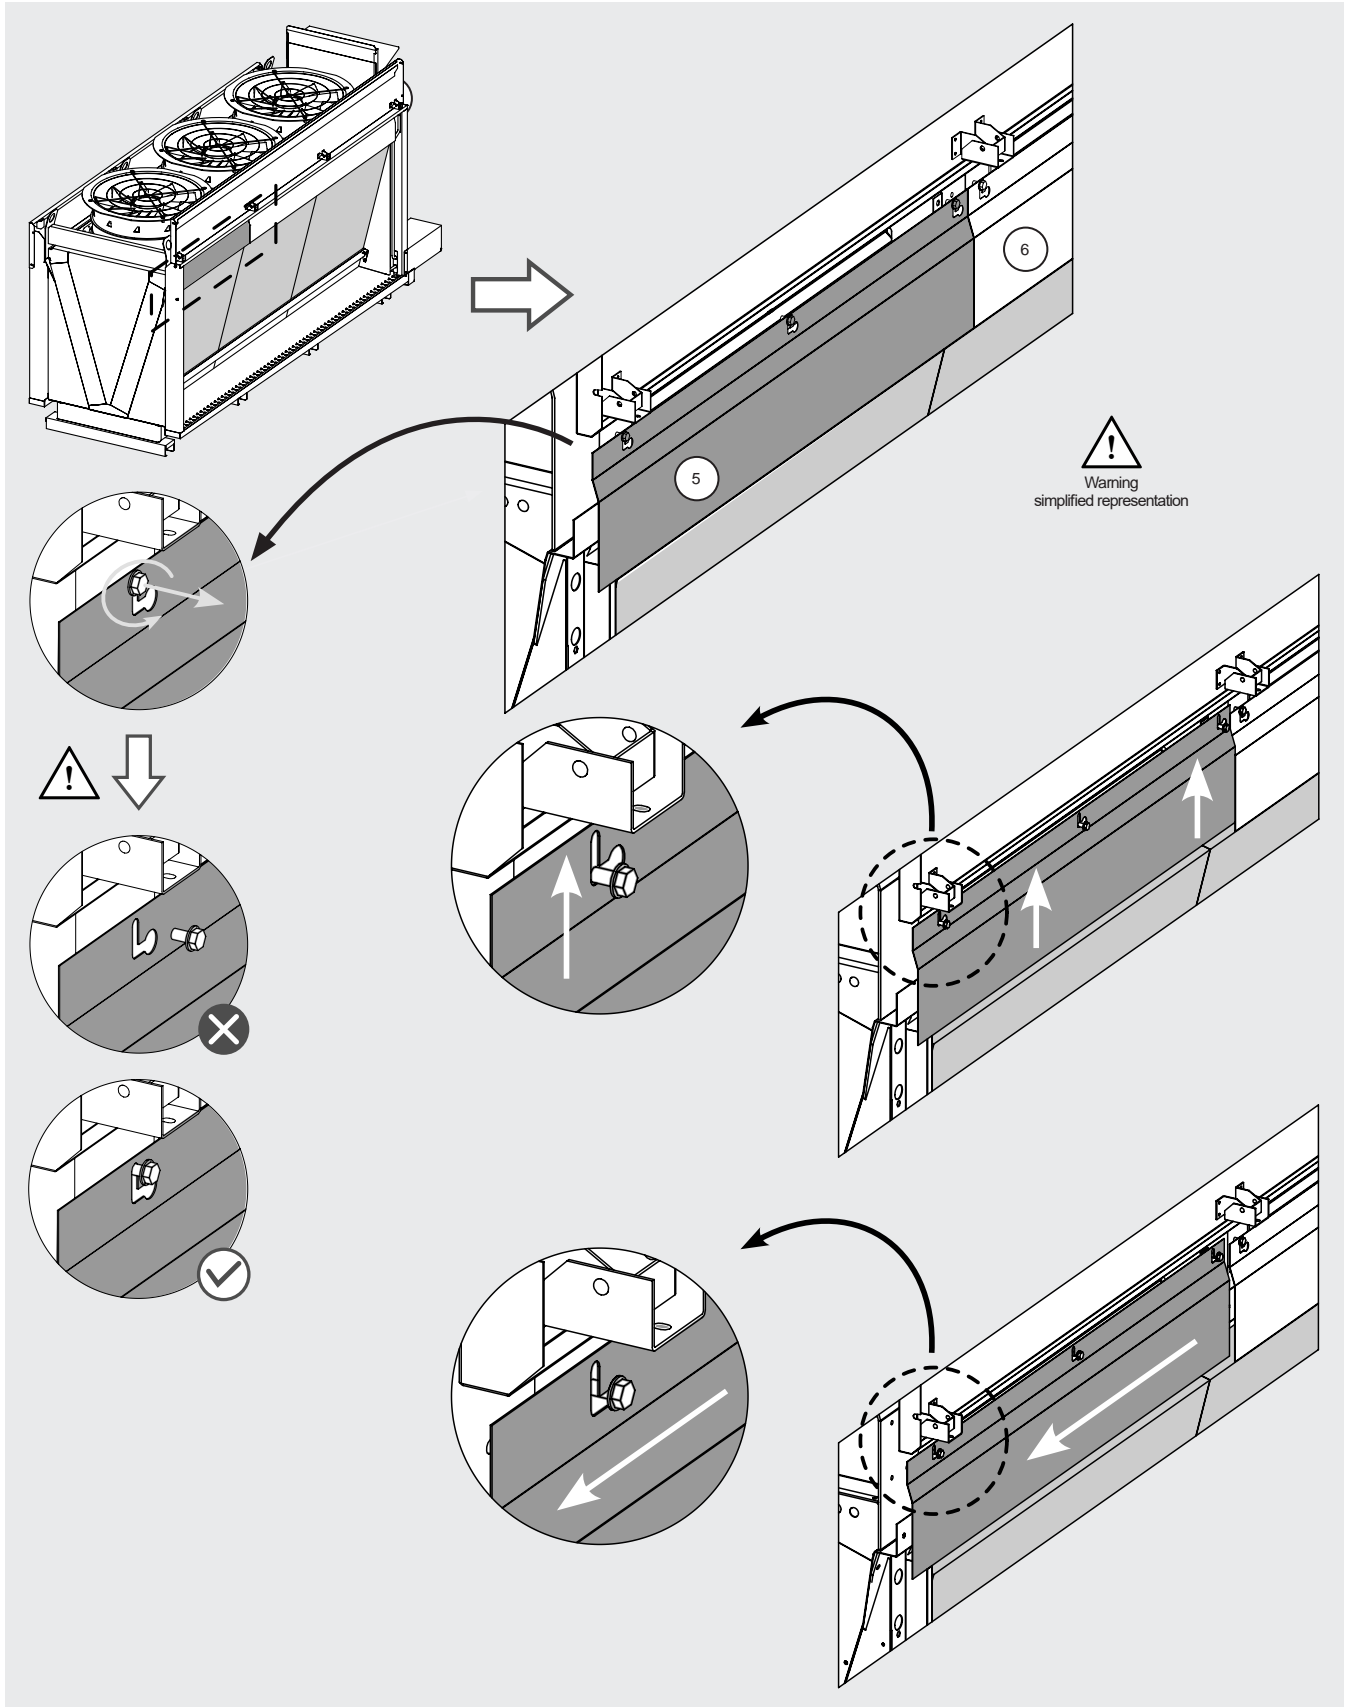

Figure 24
- 12.11.20 Loosen the screws (b) holding the cover (5) and (6) in place without removing them completely. See Figure 24.